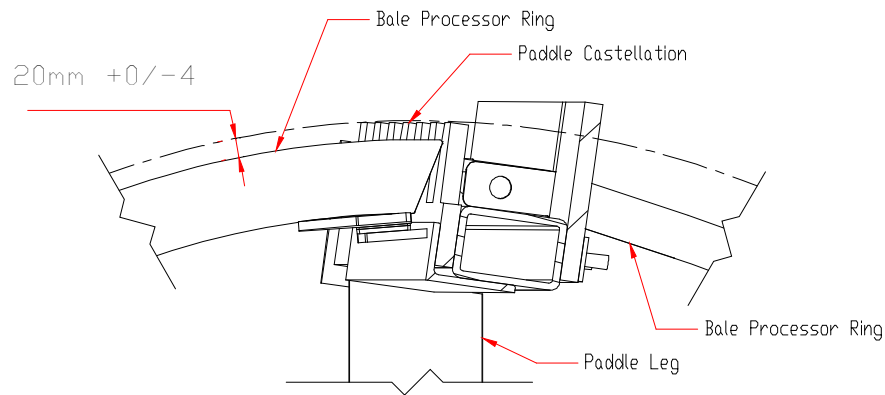

Figure 14: Series 2 Bale Processor ring to paddle tip setting
- 2:** The rubber buffer should also be checked for wear or signs of damage which may affect its shock absorption. Optimum tine to top knife gap is 235mm +/- 5mm, but may vary depending on application and the design of tine fitted. Please consult your local Service Centre for settings. The optimum distance from the ring to the top of the castellation is 20mm +0/-4mm on the rear of the ring (see figure 14).